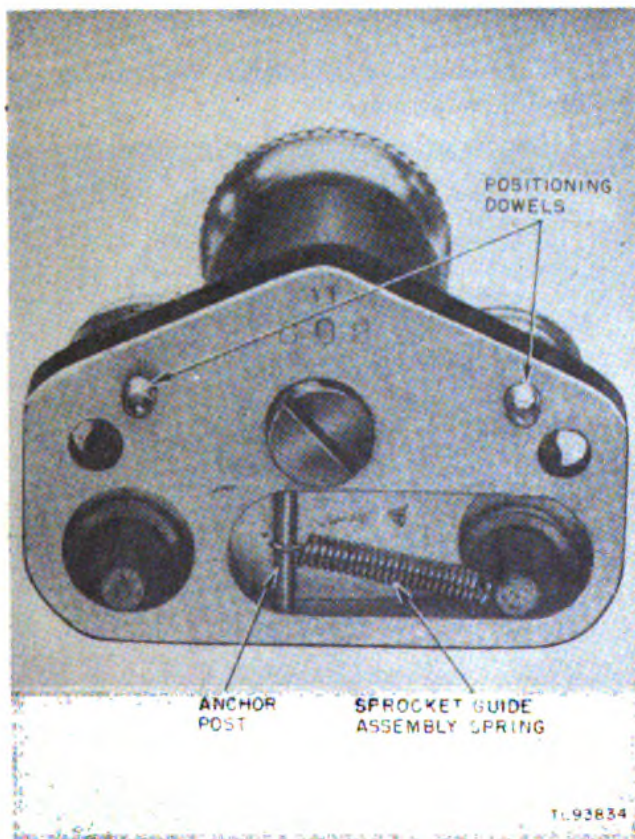

Figure 127. Rear view of sprocket film guide assembly, showing spring.
67. Replacing Sprocket Guide Assembly Spring (fig. 127)